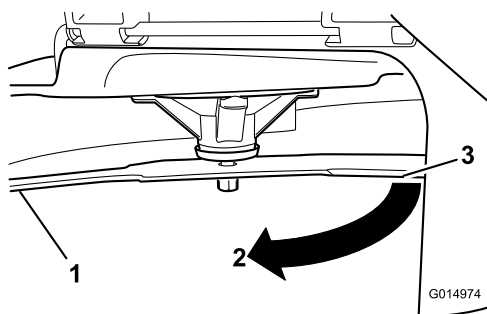

Figure 45
3. Measured distance between blade and the surface (A)
4. Rotate the same blade 180 degrees, so that the opposing cutting edge is now in the same position (Figure 45).